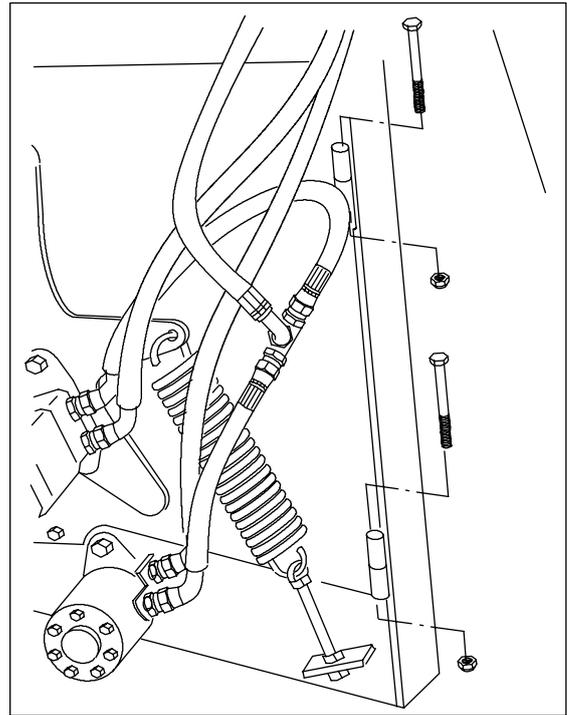

Fig. 4. Installing the hinge bolts
3. Attach the feed chute to the frame with two M10x110 bolts and lock nuts. Fig. 4.